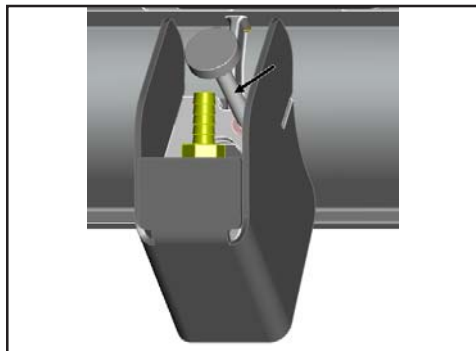
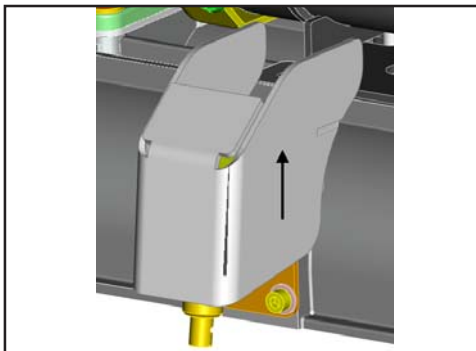

Figure 1
Figure 2
2. Loosen the lower wing nut (**B**) on the adjusting screw (**C**) and adjust the squeegee using the adjusting screw (**C**) so that the ends of the squeegee blades still have contact with the floor. By turning the adjusting screw (**C**) counterclockwise, the clearance between squeegee blade and floor is increased in the center (Fig. 1). When turning the adjusting screw (**C**) clockwise, the clearance between squeegee blade and floor is reduced in the center (Fig. 2).
1. Remove knob located above sprayjet (Figure 1).
2. Pull sprayjet cover up and hold for easy access to spray tip (Figure 2).